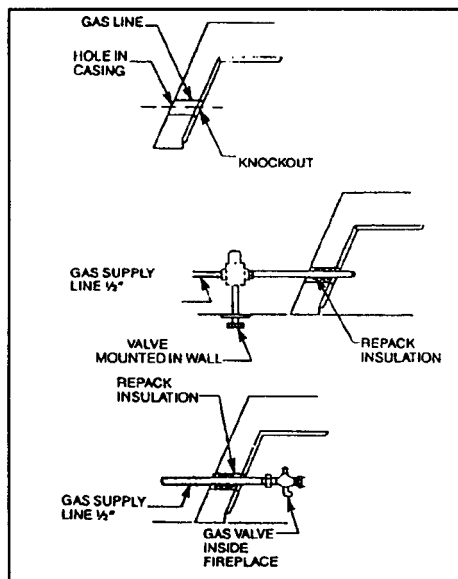

Figure 3. Gas line installation - Prefabricated Fireplace
- D. **Prefabricated fireplace:** Refer to the manufactures fireplace instruction manual for specific information regarding the running of a gas line into that particular model. A typical installation involves the insertion of a 1/2 inch gas pipe through the gas line tube provided by the manufacturer from **outside** the fireplace. The Knockout on the inside of the fireplace is removed as the gas pipe is punched through the fireplace. (See **Figure 3**).